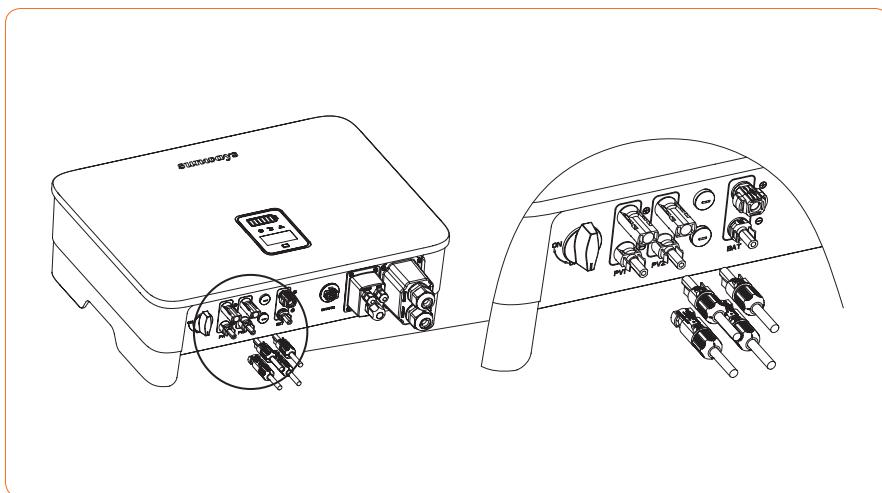

Figure 4-21
- ① Before assembling the DC connector, make sure that the cable polarity is correct.
- ② Use a multimeter to measure the voltage of the DC input string, verify the polarity of the DC input cable, and ensure that each string voltage is within 1000V.
⑦ Insert the positive and negative connectors into the inverter DC input terminals respectively, and a "click" sound represents the assembly in place, as shown in Figure 4-21: